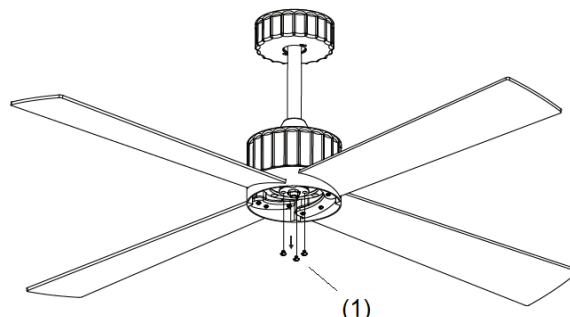
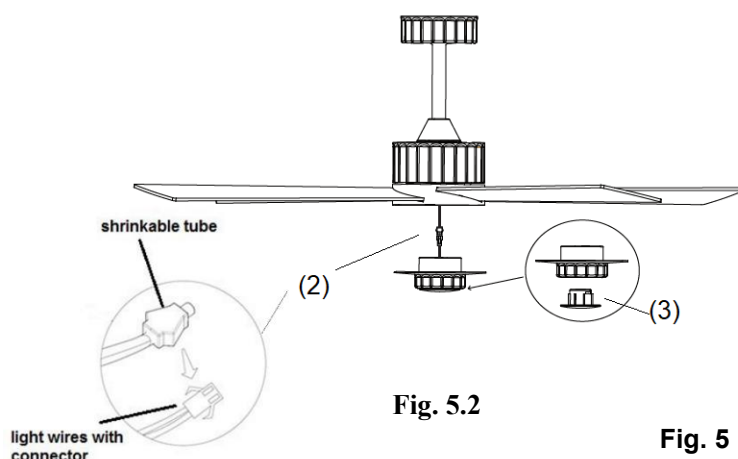

Fig. 5.1
Fig. 5.2
- Loose the 3 screws (1) from the fan assembly. (Fig.5.1)
- Remove the heat shrink tube on the quick connector (2) of the light kit then connect to the fan assembly.
- Remove the bottom cover (3). (Fig.5.2)